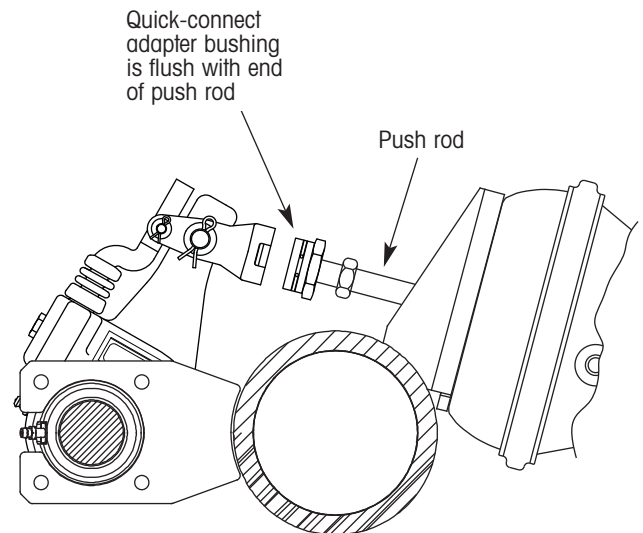

Figure 8. Threading adapter bushing onto push rod
6. Thread the quick-connect adapter bushing onto the push rod until it is flush with the end of the push rod (figure 8).